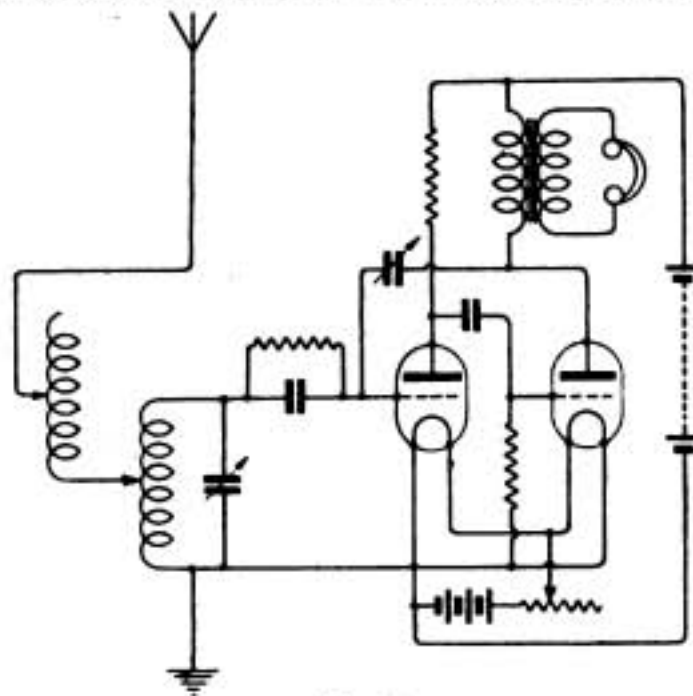
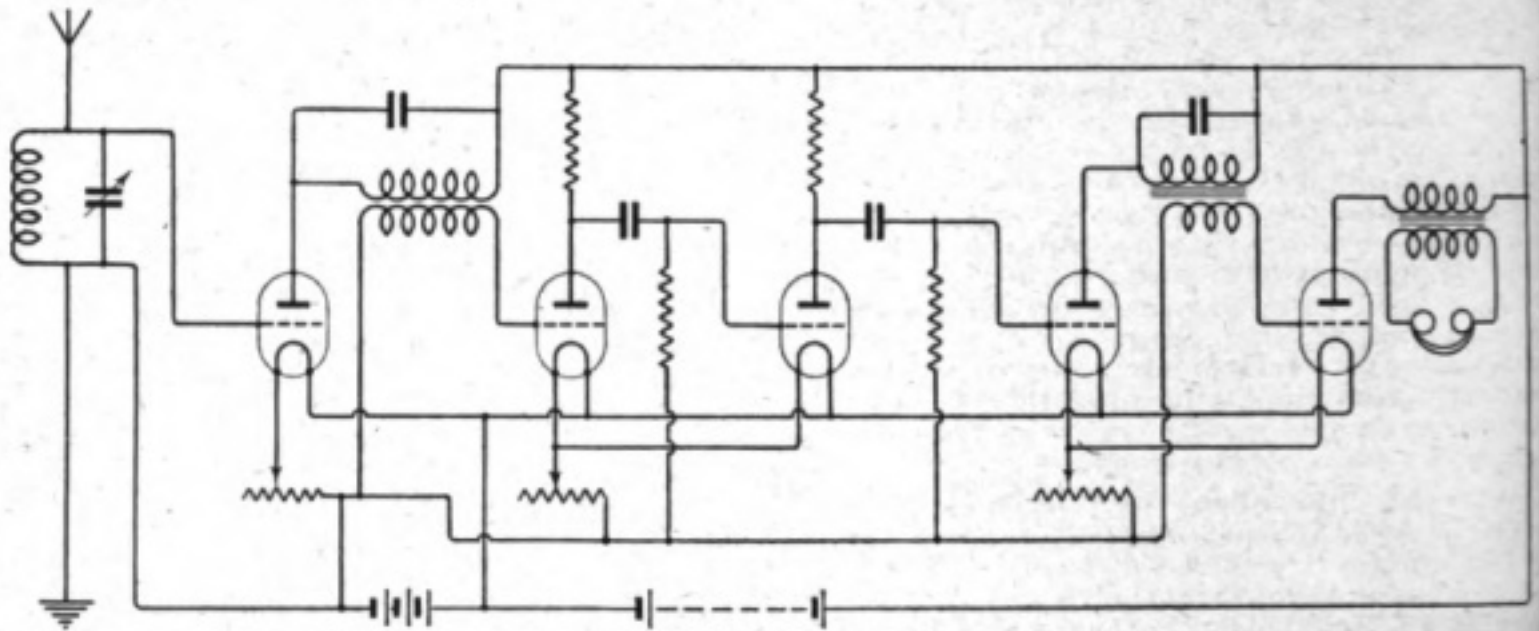
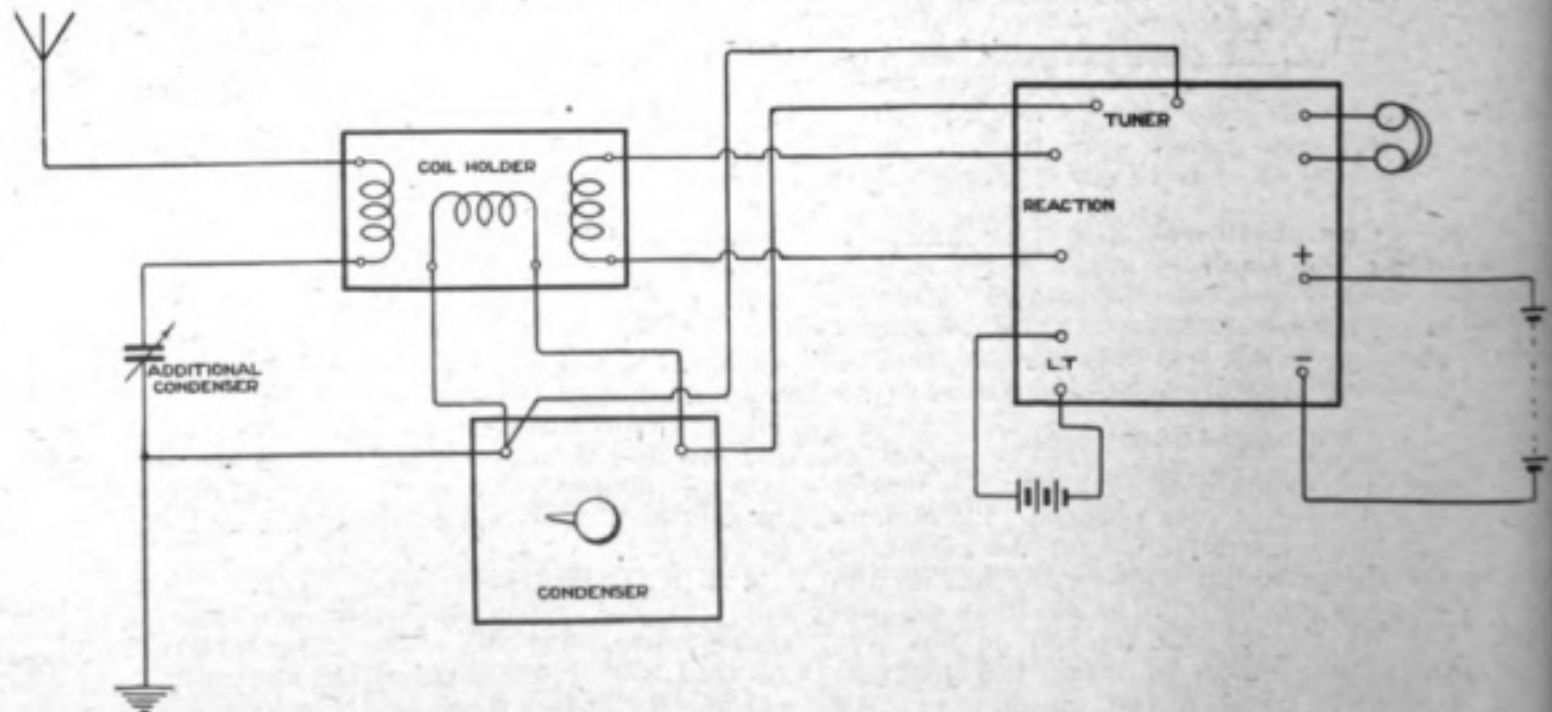
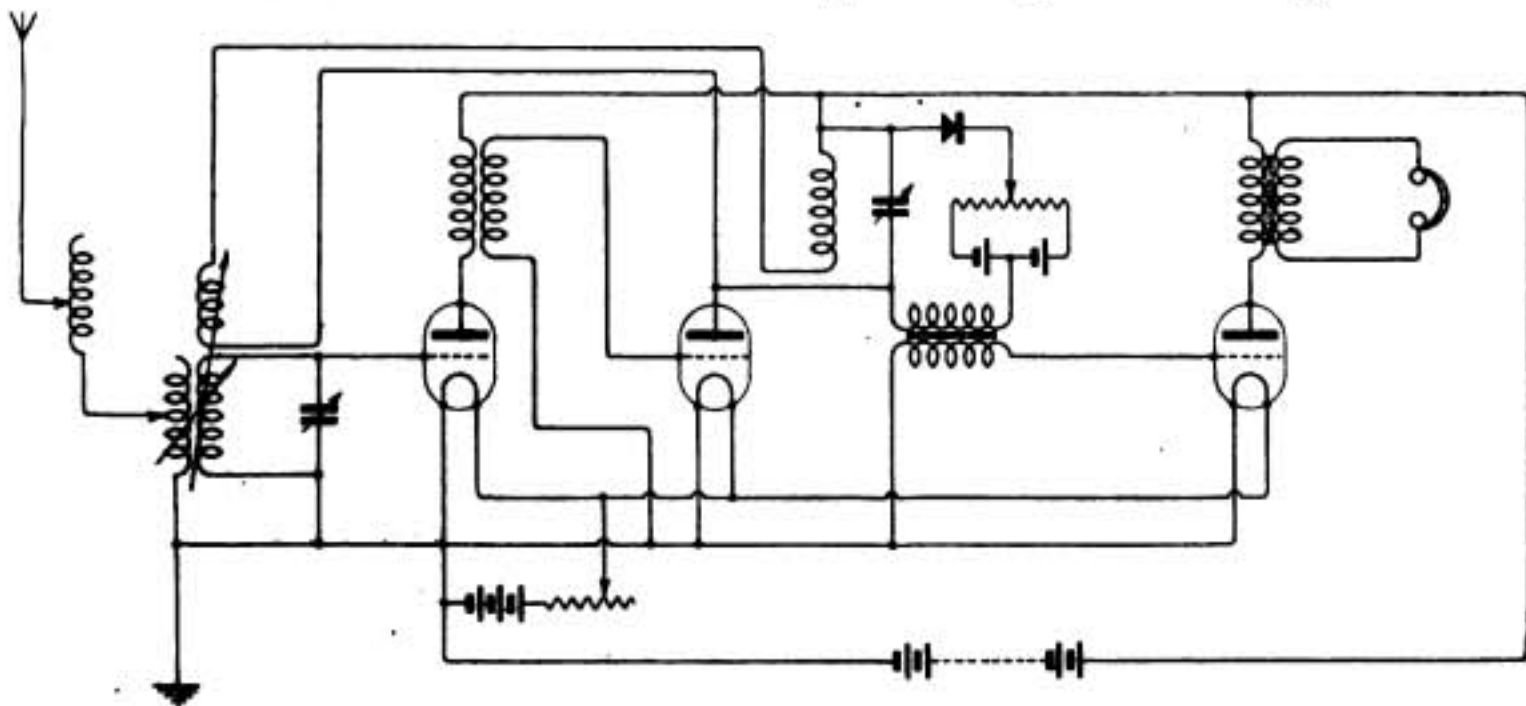

Fig. 2.
Fig. 3.
Fig. 4.
Fig. 6.
(1) See diagram, Fig. 2. (2) The circuit of Fig. 3, page 398, September 17th issue, is one of many quite suitable for your purpose. Please note that these columns are intended for the assistance of readers with specific difficulties, and not for the detailed design of sets for more or less freak requirements. (3) We cannot say, as you do not give enough information for us to obtain the thickness of the di-electric between the plates. (4) We prefer the single wire. (5) We cannot answer
short wavelengths. Reaction should be in the anode of the rectifier. If the separate heterodyne is strong, couple it to the grid of the rectifier. If weaker, couple to one of the earlier valves. A common battery arrangement is shown in the diagram, Fig 3. (2) Only one winding should be tuned by a condenser, the tight coupling between the windings then gives the effect of tuning both circuits. (3) The condition of equality of internal and external resistance only holds in the case of resistance amplifiers, not in the case of resonance transformers. (4) The effect is probably due to the set having two distinct possible periods of oscillation, one governed by the constants of the closed circuit, and the other by those of the combined closed and aerial circuits. Tightening of the coupling causes a rapid change over from one state of oscillation to the other.
its most probable arrangement (Fig 4). The set may, of course, not work if the panel happens to be differently arranged. The leads to the terminals marked "Tune" may need interchanging.
(1) Yes. (2) No. 38, S.S.C. (3) Yes. Transformer should have a 1/1 ratio with about 5,000 turns on each winding. (4) No. Provided there is a condenser of 0.001 mfd. across the winding in the grid circuit. There should also be a similar condenser across the telephones.
"AMATEUR" (Walsall).—(1) The arrangement suggested is rather cumbersome, with very little indeed to recommend it. We think you would find the circuit of Fig. 4, page 32, April 1st issue, will meet your requirements. We do not advise any more complicated switching stunts. (2) Yes, if properly proportioned. (3) We are unable to calculate the inductance of the coils, as you do not state the diameter.
(1) A crystal is hardly necessary in combination with so many valves, but see diagram (Fig. 6). (2) It should do so. (3) See reply to "I.D.A." (Wellington), above.
"P.O.P." (Stratford-on-Avon).—The crystal diagram is not quite correct. The blocking condenser should be across the telephones. The battery should be applied to the crystal through a potentiometer. See Fig. 4, page 813, March 4th issue. The information regarding the single valve set will be found in the same issue, Fig. 2, page 811. For 6,000 metres the A.T.I. may be 10" x 6" of No. 26. To increase the range another 2,000 metres add an additional coil of 8" x 6" of No. 26.
"D.A.C." (Walthamstow) asks (1) If circuit of Fig. 3, page 617, December 24th issue, will work with duolateral coils with suitably tapped H.F. transformers for 300 to 30,000 metres. (2) For diagram to cut out switching arrangement of H.F. or L.F. valve.
(1) Yes, or a single tuned circuit receiver may be used for the longer wavelength. It has often been pointed out in these columns that it is not possible to construct an efficient H.F. transformer to cover
so large a range. (2) A suitable arrangement is shown in Fig. 4, April 1st issue.
"X" (Malton).—(1) We prefer 3 H.F. to 3 L.F. (2a) We cannot give the reason for loss of strength in this case without fuller particulars of the circuit. In case (b) result is evidently due to poorness in the design or construction of the telephone transformer; but in any case the use of 1/1 transformer, which can obviously never be perfectly efficient, is bound to give some weakening of signals. This is often worth while, on account of the better working of the set obtained. (3) A suitable switching arrangement for adding a L.F. valve is shown in Fig. 4, page 706, February 4th issue.
(1) We have no practical experience of the working of this circuit, but its underlying principles appear to us of questionable utility. We much prefer later circuits in this article, such as, for instance, No. 2. If you try the circuit of Fig. 1 we should give the two closed circuit inductances the normal tuning values and wind the secondary of the coupler on the same former as the primary, separated from it with Empire cloth, and of about No. 36 wire. (2) Not for the circuit of Fig. 1, but it could be used for the circuit of page 65. (3) Coupler might be used on this wavelength if re-wound with about No. 34 wire. (4) We do not recommend the use of true L.F. reaction, which is very liable to produce unmanageable "howls." Low-frequency back coupling for the purpose of re-amplification may, however, be used, as, for instance, in the circuit of Fig. 2, page 561.
"A.C.T." (Hemel Hempstead).—(1) A circuit might be on the lines of that shown in Fig. 3, page 398, September 17th issue, though we do not think that the 1.25 transformers will be of much use. (2) We cannot say the wavelength without more information about the condensers, but probably the maximum will be 2,000 to 3,000 metres. (3) Yes. The correct polarity should be found by experiment. (4) We prefer the twin aerial.
----- (Oundle).—(1) The suggested type of amplifier could be used, but only with the addition of an anode resistance or impedance for each valve, and also a coupling condenser. The circuit would then closely resemble the normal resistance capacity circuit. Common H.T. can then be used. (2) We are afraid the scheme is of little practical utility. (3) About 0.00045 mfd. (4) The most obvious improvement is the addition of a reaction coil. The next is the substitution of two loosely coupled circuits for the single circuit shown, also the connections of all the plate circuits in the diagram are wrong. After attending to these points high-frequency amplification can be added if desired.
(1) and (2) Yes. A suitable circuit is shown in Fig. 3, page 812, March 18th issue. The anode resistance may be 50,000 ohms. (3) and (4) This will not be as good as two valves, but would be better than the single valve set. For circuit, see Fig. 4, page 61, April 8th issue.
(1) A valve, 6-volt accumulator, filament resistance, H.T. battery, a potentiometer, reaction coil and valve holder. The circuit will then be on the lines of Fig. 6, page 775, March 4th issue, but with the telephones in this case on the earth side of the H.T. battery. With somewhat more gear a valve and crystal set as Fig. 4, page 813, could be used. (2) Your circuit should be satisfactory. Reaction coil may be 5" x 3" of No. 32. (3) Yes.